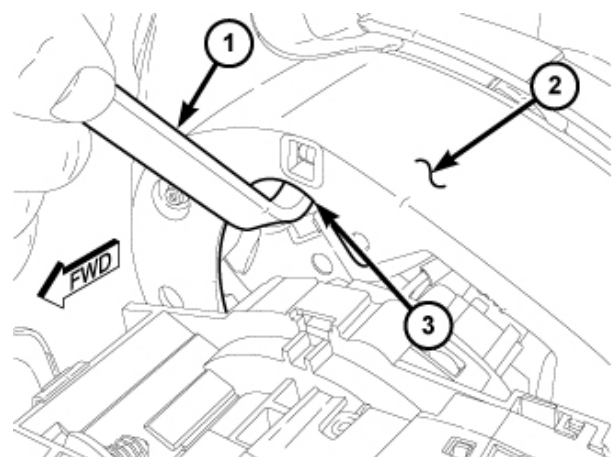

Figure 3 – DAB Removal Tool 10187
8. Insert the short blade (Tip A) of the DAB Removal Tool (Special Tool Number 10187) (1) or the blade of an equivalent prying tool into either of the upper (two o'clock or ten o'clock) access holes (3) of the steering wheel hub rear trim cover (2), being certain to place the blade of the tool on the inboard (steering wheel hub) side of the airbag snap retainer wire loop (Figure 3).